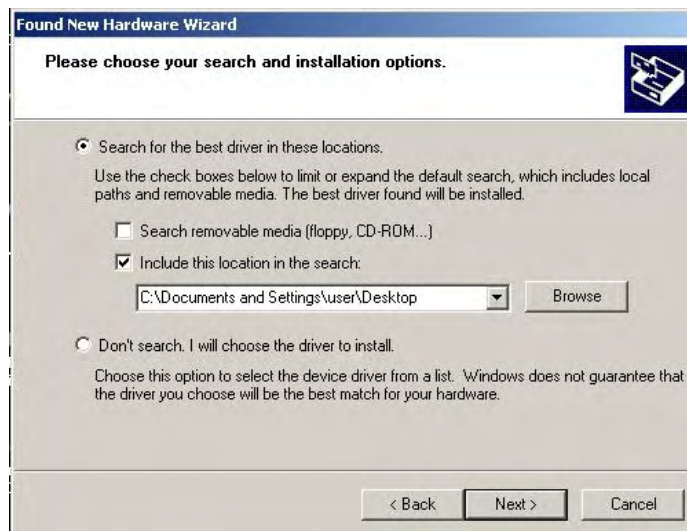

FIG. 28 Found New Hardware Wizard Installation Options dialogue box
7. In the next box (FIG. 28), make sure to: